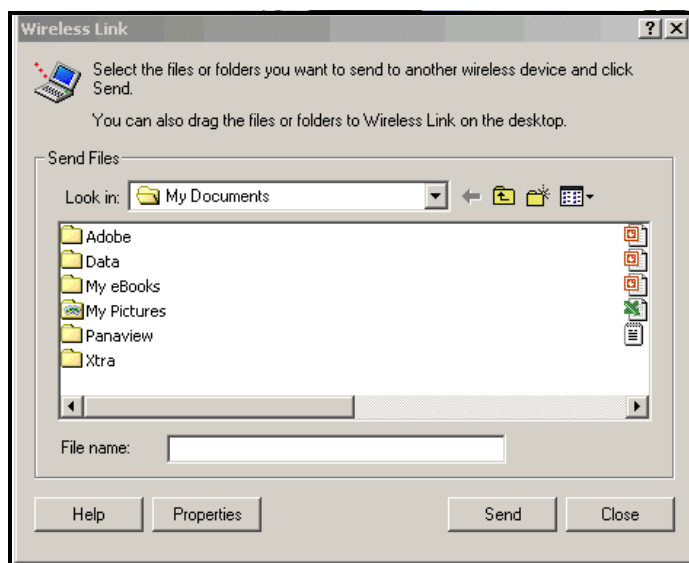

Figure 61: Wireless Link Window
1. Click on the *Infrared* icon in the System Tray – . A window similar to Figure 61 appears.
2. Click on the *Infrared* icon in the System Tray – . A window similar to Figure 61 appears.